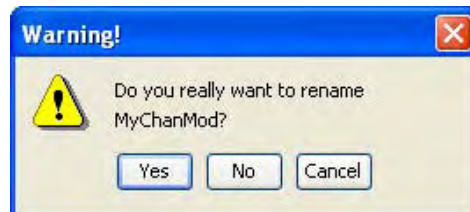

Figure 6.18 Warning Message when Renaming Channel Modification
3. A warning message (Figure 6.18) appears when you save the new name, asking you to confirm that you want to rename the channel modification.